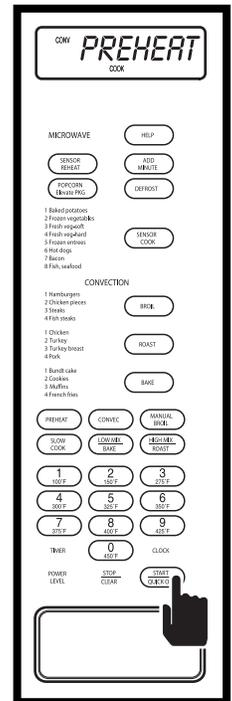

Figure 3-83.
3. Press QUICK ON/START key. Oven will pre-heat to 450°F. When oven reaches temperature, oven will beep 4 times. (See Figure 3-83)